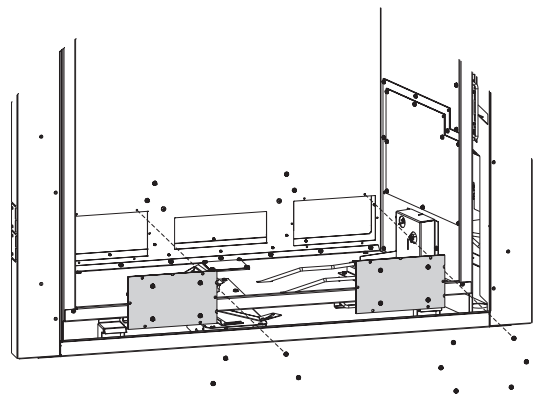

Figure 13
8. Replace Blower Bracket (w/ blowers attached) with (6) screws each. (Figure 13)